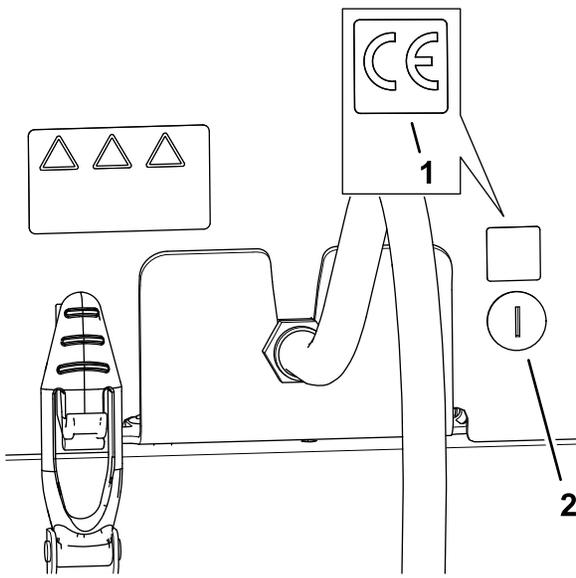

Figure 38
1. Use rubbing alcohol and a clean rag to clean the area of the hood next to the hood lock, and allow the hood to dry. (Figure 38).